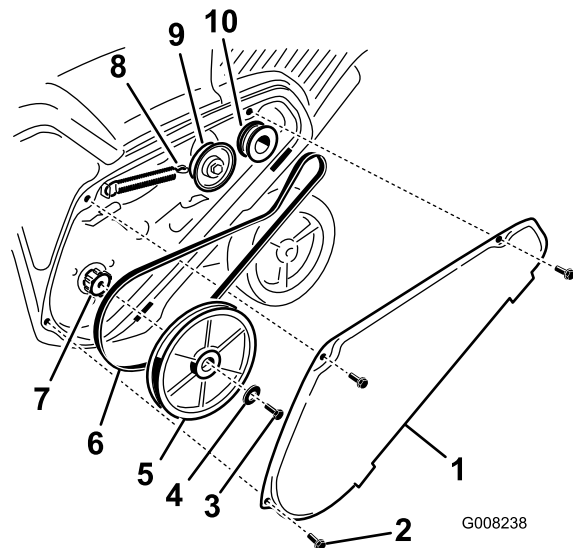

Figure 27
2. Unhook the brake spring from the idler arm to release the belt tension (Figure 27).
3. Remove the screw and curved washer that hold the rotor pulley (Figure 27).
- Remove the rotor pulley and the drive belt (Figure 27).
Note: Route the new drive belt first around the engine pulley, then the idler pulley, and finally around the loose rotor pulley positioned just above the rotor shaft (Figure 27).
- Install the rotor pulley onto the rotor shaft (Figure 27).
- Install the curved washer and the rotor pulley bolt and tighten them securely (Figure 27).